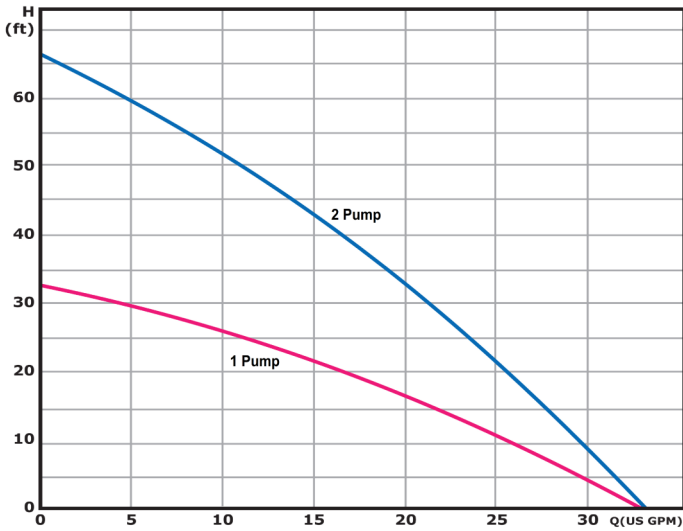

Fig. 1. Low Head Pump Center Flow Chart
Before installing the GT[®] Flow Center, check the flow charts and loop table against system flow and pressure drop characteristics to be sure the correct flow center is selected for the system. A one-pump flow center can accommodate flow for 3 1/2-ton units and smaller. A two-pump flow center can accommodate flow for 3 1/2- through 6-ton units. **(See Fig. 1 & 2)** To ensure adequate flow, the selection must be made based on your specific system design.
1. By using the flow meter tool, monitor the flow (GPM) being pumped through the entire system. If the flow is not correct, check that the proper flow center has been selected for the application using pump curves (**See Fig. 1,2**). If the pump curve indicates the proper flow center was installed and the GPM is less than the system requires, an obstruction in the system is restricting flow.